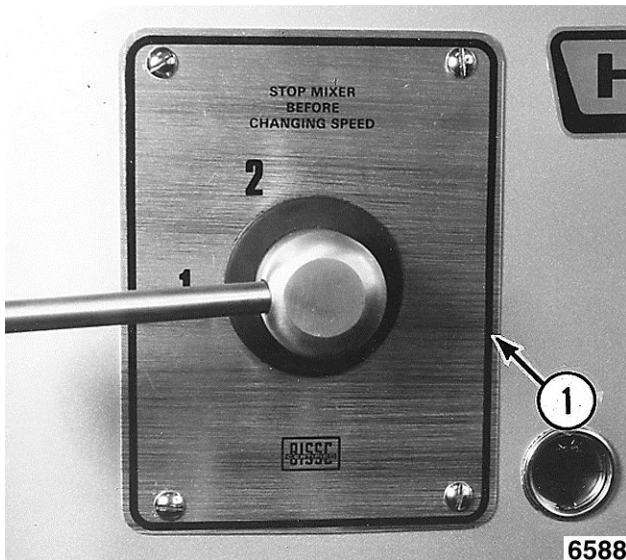

Fig. 43
8. Remove shift selector plate [1] Fig. 43.